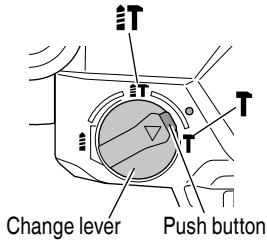

Fig. 24
- (1) Mount the bull point or cold chisel.
- (2) Press the push button and set the change lever to middle of **T** mark and **T** mark (Fig. 24).